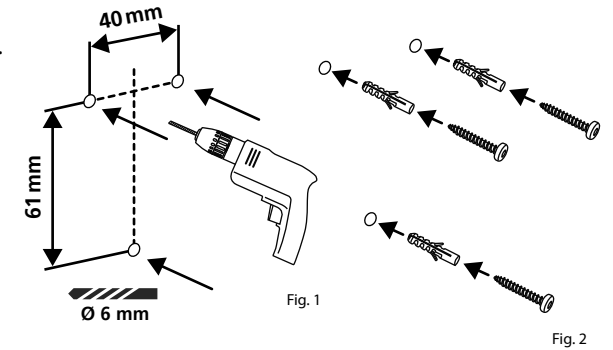

Fig. 2
- ② Insert the dowels supplied into the holes and screw in the screws provided (Fig. 2).